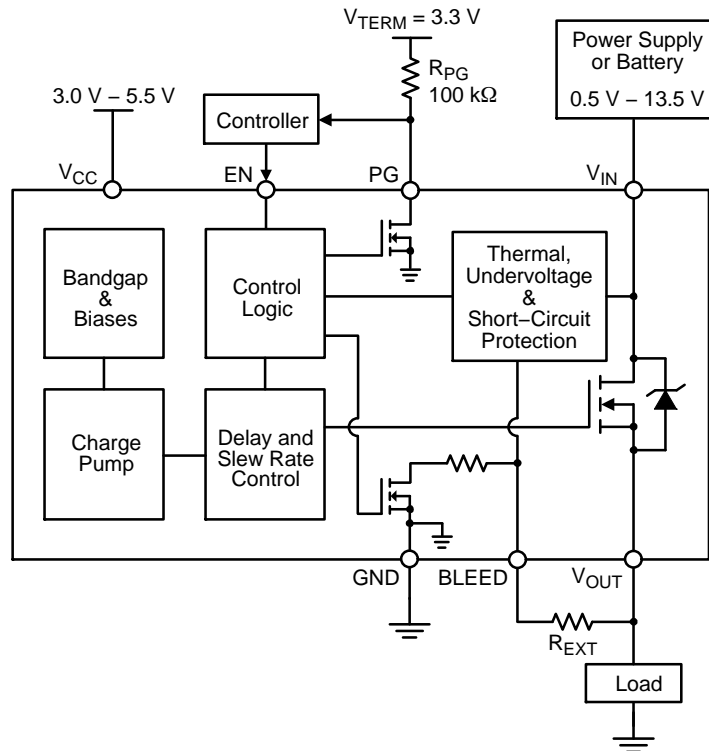
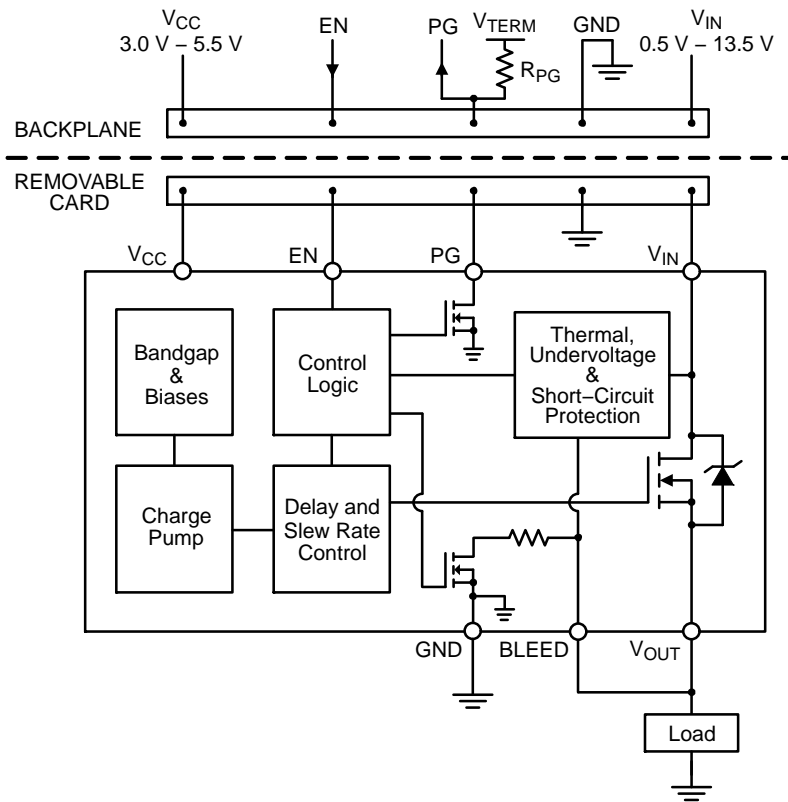

Figure 30. NCP45520 Typical Application Diagram – Load Switch
Figure 31. NCP45520 Typical Application Diagram – Hot Swap
It is required that the BLEED pin be connected to V_{OUT} either directly (as shown in Figures 31 and 34) or through an external resistor, R_{EXT} (as shown in Figures 30 and 33). R_{EXT} should not exceed 1 k Ω and can be used to increase the total bleed resistance.
The NCP45520 devices have a power good output (PG) that can be used to indicate when the gate of the MOSFET is fully charged. The PG pin is an active-high, open-drain output that requires an external pull up resistor, R_{PG} , greater than or equal to 1 k Ω to an external voltage source, V_{TERM} , that is compatible with input levels of all devices connected to this pin (as shown in Figures 30 and 31).
Once active, the circuitry monitors the difference in the voltage on the V_{IN} pin and the voltage on the BLEED pin. In order for the V_{OUT} voltage to be monitored through the BLEED pin, it is required that the BLEED pin be connected to V_{OUT} either directly (as shown in Figures 31 and 34) or through a resistor, R_{EXT} (as shown in Figures 30 and 33), which should not exceed 1 k Ω . With the BLEED pin connected to V_{OUT} , the short-circuit protection is able to monitor the voltage drop across the MOSFET.